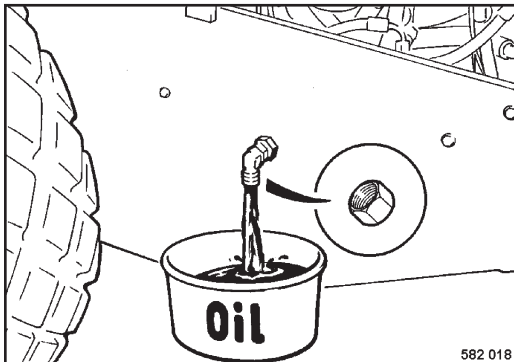

Fig. 104
- Unscrew the drain plug (Fig. 104) and catch running out oil.